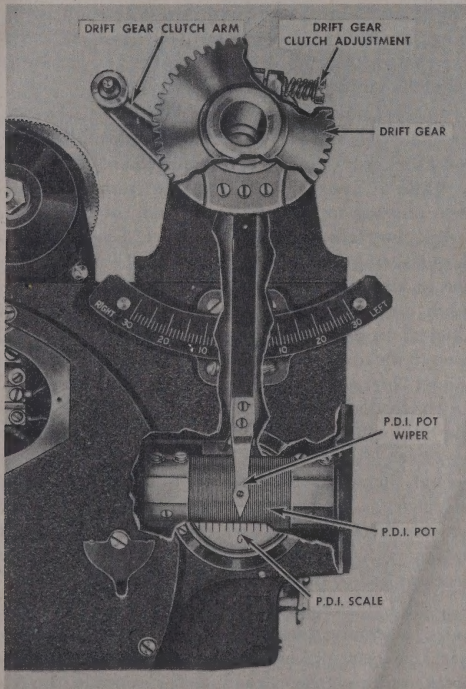

Fig. 51—P. D. I. Pot and Drift Gear Clutch
5. On the top of the Autopilot clutch collar is a small pin to which is fastened the Autopilot connecting arm. The other end of this arm connects to the drift gear clutch, (Fig. 51), which holds the drift gear and PDI pot wiper in fixed relation to the Cardan assembly. Proper tension of the drift gear clutch is six to eight lbs.
1. The Pilot Director Actuating Assembly consists of a pot winding and wiper, as illustrated in Fig. 51. The wiper is fastened to the drift gear clutch